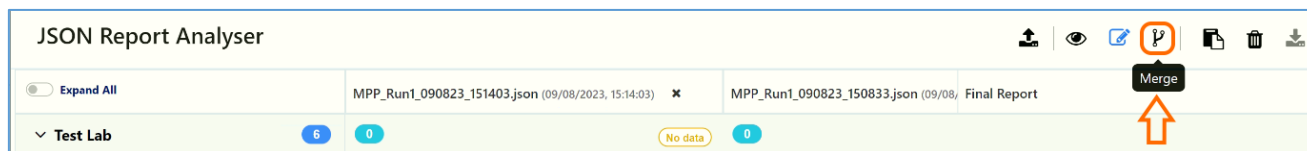

FIGURE 8.119: MERGE ICON
1. Click on the Merge icon  as shown in Figure 8.119.